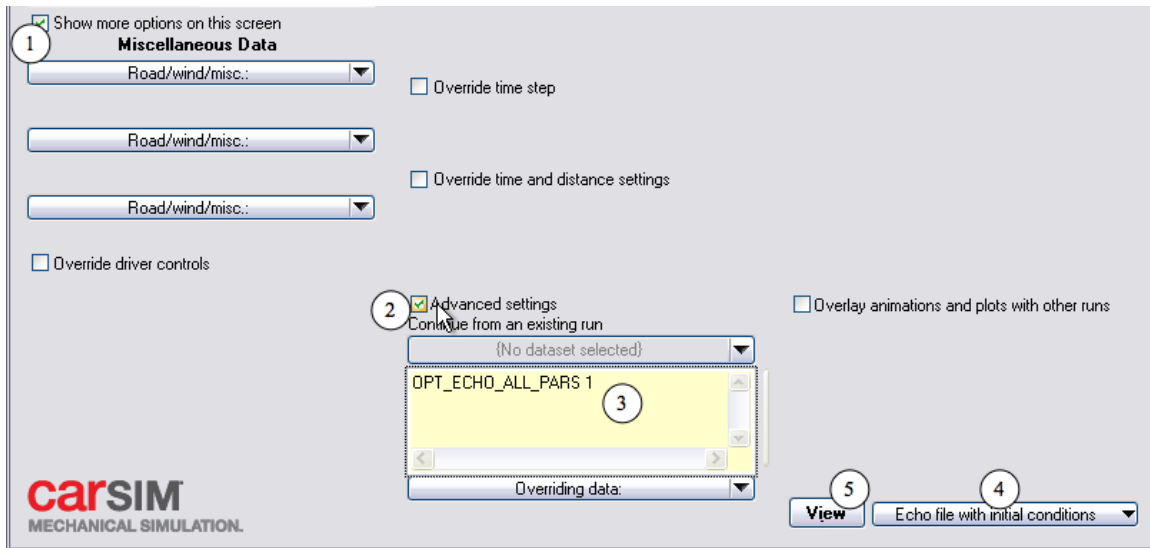

Figure 1. Make a run to find all parameters and configurable function in the math model.
3. Check the box to **Show more options on this screen** ① (Figure 1) and **Advanced settings** ②, to view the miscellaneous yellow field ③.